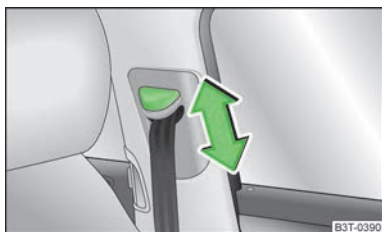

Fig. 140
- Press the height adjuster and move up or down in the desired direction » Fig. 140.